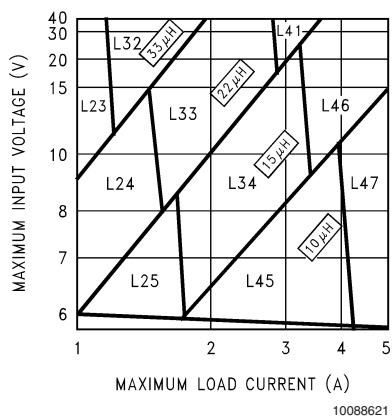
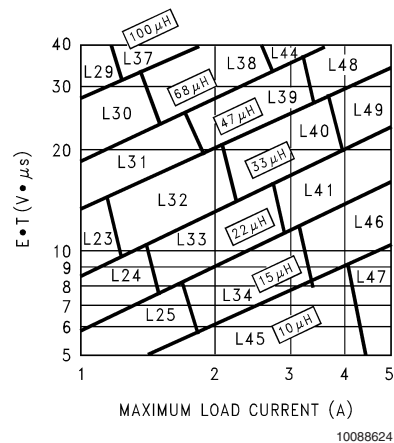

FIGURE 3. LM2678-3.3
FIGURE 6. LM2678-ADJ
Step 3: Determine the inductor required by using one of the four nomographs, *Figure 3* through *Figure 6*. Table 1 provides a specific manufacturer and part number for the inductor.
Step 5: Determine an input capacitor from Table 4 for fixed output voltage applications. Use Table 2 to find the specific capacitor type. For adjustable output circuits select a capacitor from Table 2 with a sufficient working voltage (WV) rating greater than $V_{in\ max}$, and an rms current rating greater than one-half the maximum load current (2 or more capacitors in parallel may be required).
Step 3: Use the nomograph for the 3.3V device, *Figure 3*. The intersection of the 16V horizontal line ($V_{in\ max}$) and the 4A vertical line ($I_{load\ max}$) indicates that L46, a 15 μ H inductor, is required.
Step 3: To use the nomograph for the adjustable device, *Figure 6*, requires a calculation of the inductor Volt•microsecond constant ($E \cdot T$ expressed in $V \cdot \mu s$) from the following formula:
Using *Figure 6*, the intersection of 27V•μS horizontally and the 3.5A vertical line ($I_{load\ max}$) indicates that L48, a 47μH inductor, or L49, a 33μH inductor could be used. Either inductor will be suitable, but for this example selecting the larger inductance will result in lower ripple current.
Important Note: When using the adjustable device in low voltage applications (less than 3V output), if the nomograph, *Figure 6*, selects an inductance of 22μH or less, Table 6 does not provide an output capacitor solution. With these conditions the number of output capacitors required for stable operation becomes impractical. It is recommended to use either a 33μH or 47μH inductor and the output capacitors from Table 6.